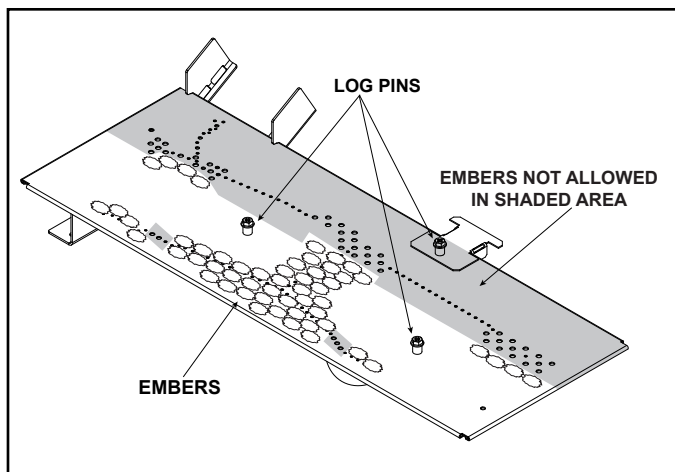

Figure 2. Log Pin and Glowing Ember Locations
6. Locate the glowing embers and install them as shown in Figure 2. Do not install any glowing embers on the back row of burner ports. Glowing Embers can be placed directly over burner ports; however, for optimal front flame height, place glowing embers around the burner port clusters indicated by the "arrows" shown in Figure 8.